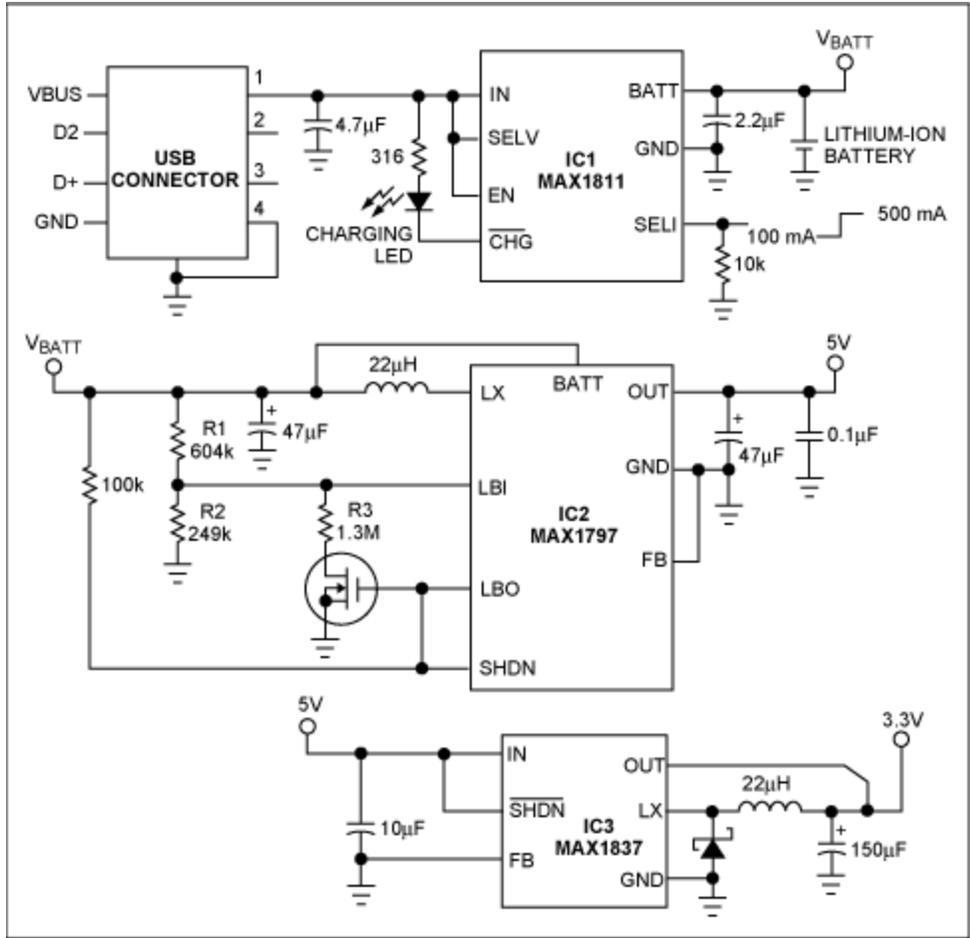

Figure 1. Drawing power from a USB port, this circuit generates +5V and +3.3V supply voltages for portable applications.
*Abstract: A portable device using the circuit of Figure 1 derives power from the USB bus. The MAX1811 uses USB power charges a lithium-ion (Li+) battery at, USB compatible, 100mA or 500mA rates. Battery power is then stepped up with the MAX1797 to create the 5V supply rail. The 5V supply rail is then stepped down with the MAX1837 to create the 3.3V supply rail. The circuit includes a low battery shutdown to protect the Li+ battery and offers a convenient charging LED.*
The **Figure 1** circuit is powered by a universal serial bus (USB) port. It produces +5V and +3.3V to power portable devices such as digital cameras, MP3 players, and PDAs. It allows the port to maintain communications while supplying power, e.g., to charge a Li+ battery. IC2 boosts the battery voltage ( $V_{BATT}$ ) to 5V, and IC3 bucks that 5V output down to 3.3V.